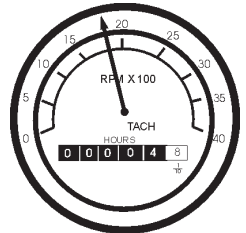

Figure 51. Engine Tachometer Gauge
10. The **tachometer gauge** (Figure 51) will indicate the speed of the engine when the generator is operating. Under normal operating conditions this speed is approximately 1800 RPM's.